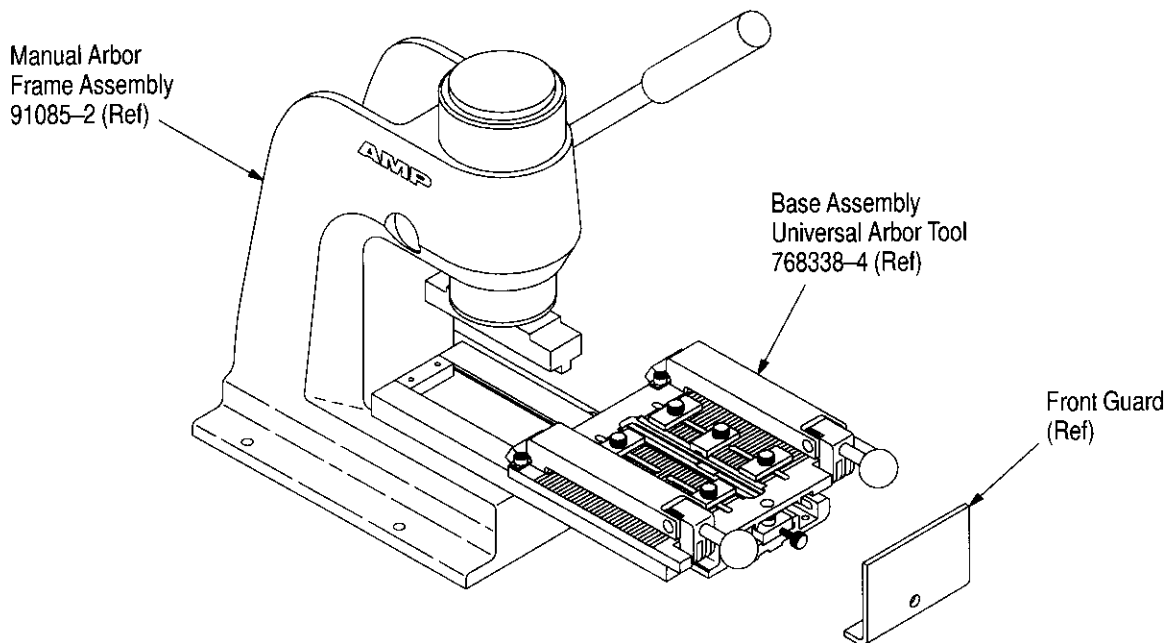

Figure 1
This instruction sheet covers the installation and setup procedures for AMP\* Connector-Specific Kit 679235-2. The connector-specific kit is used in conjunction with Base Assembly Universal Arbor Tool 768338-4 and AMP Manual Arbor Frame Assembly 91085-2 (see Figure 1), or AMP Pneumatic Auto-Cycle Unit 91112-3 to terminate AMPLIMITE .050 Series Plug and Receptacle Connectors to 0.64 mm [.025 in.] centerline flat ribbon cable.
**2. DESCRIPTION (Figure 1)**